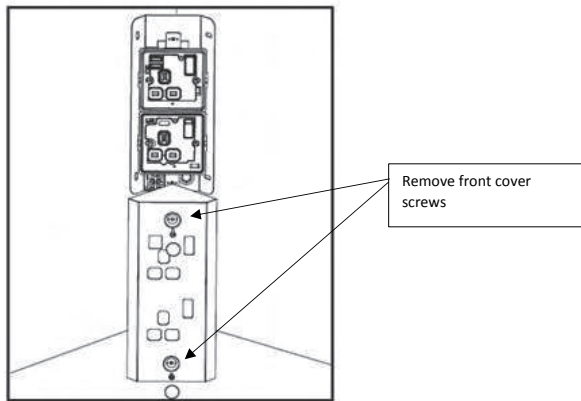

Fig. 1
- Remove the screws on the front cover at top and bottom of the fitting using a slotted screwdriver (see Fig. 1)